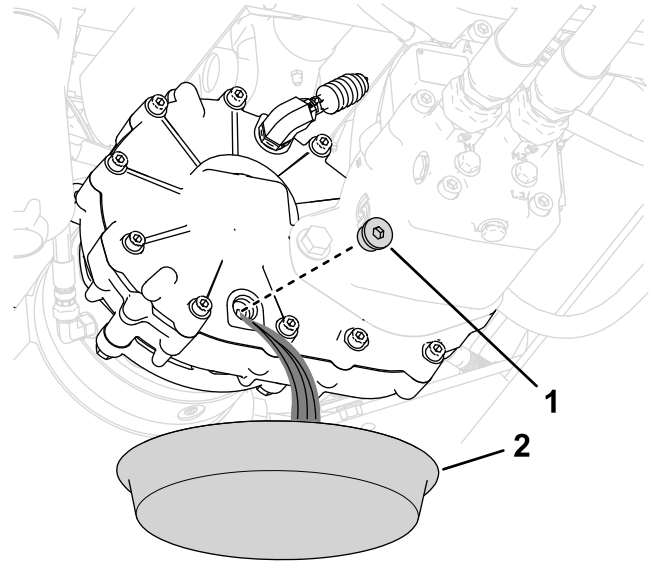

Figure 115
3. Remove the plug from the drain port (Figure 115) and allow the oil to drain completely from the gearbox.